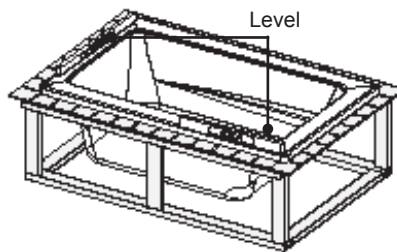

Fig. 6
5. The bathtub must be set level. To check, use a level on top of the ledges on both ends of tub and on top of threshold (Figure 6).